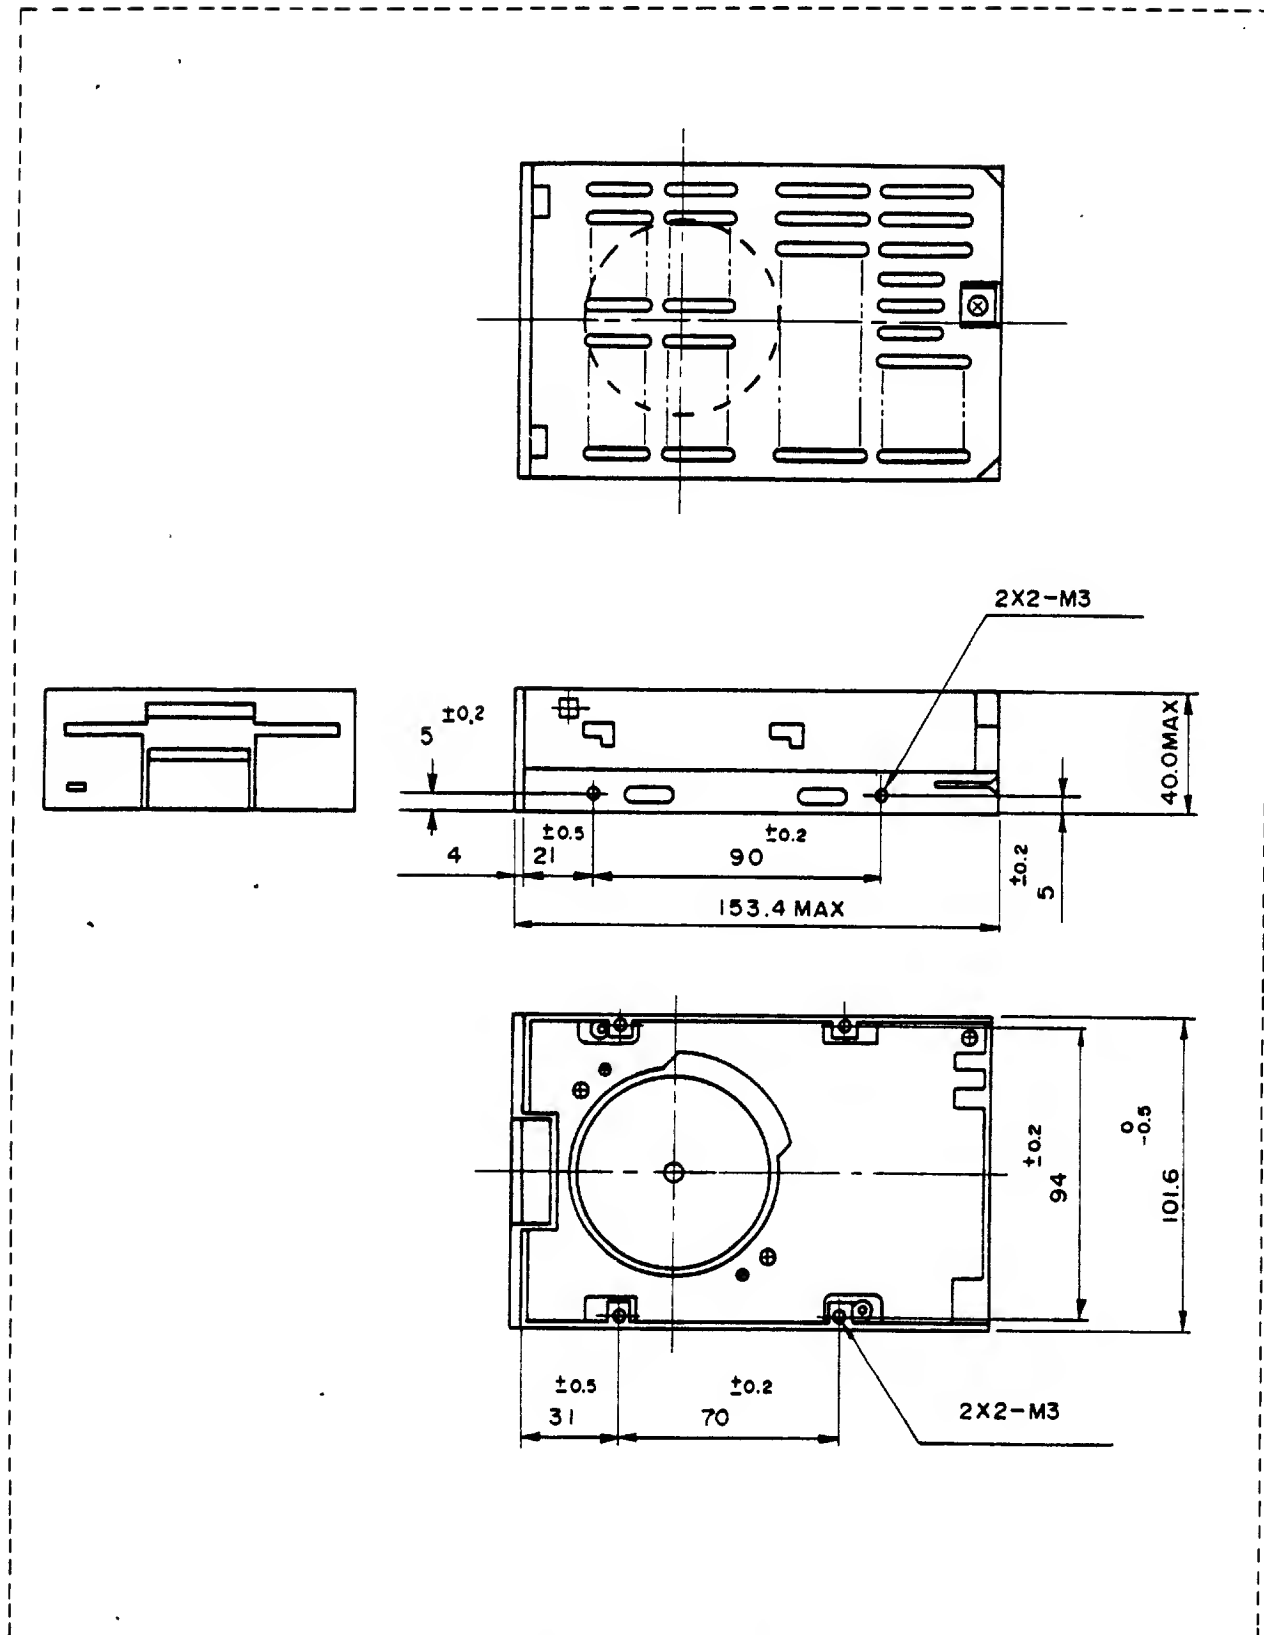

Fig. 6.1 Mechanical Dimensions
- (1) Refer to Fig. 6.1.
- (2) The standard color for the front is as follows: